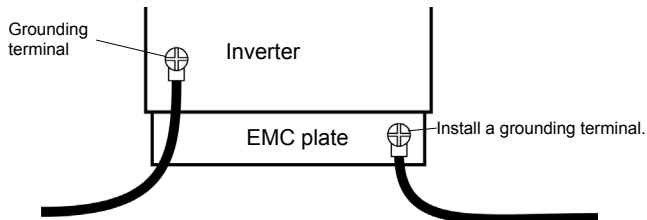

Fig. 4
- (1) Install the inverter in a cabinet and ground the inverter enclosure. When doing maintenance, be extremely careful not to put your fingers into the inverter through a wiring hole and touch a charged part, which may occur depending on the model and capacity of the inverter used.
- (2) Do not connect two or more wires to the main circuit earth terminal of the inverter. If necessary, install an additional earth terminal on the EMC plate on which the inverter is installed and connect another cable to it. (Refer to Fig. 4.) See the table of section 10.1.
- (3) Install a molded-case circuit breaker on the input side of the inverter.